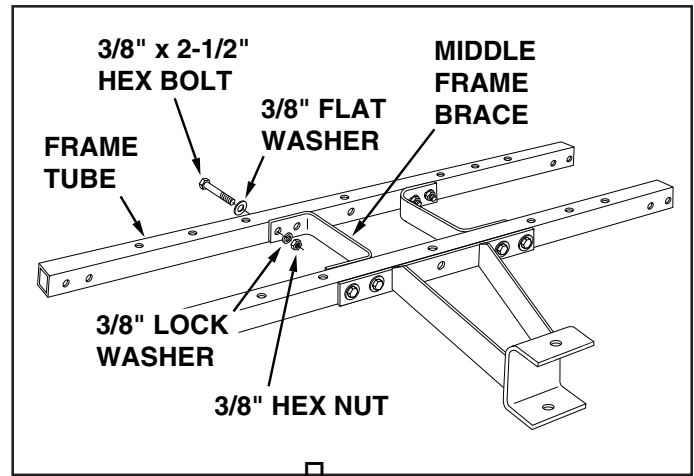

FIGURE 3
4. Assemble a frame tube to the rear of the middle frame braces using four 3/8" x 2-1/2" hex bolts, 3/8" flat washers, 3/8" lock washers and 3/8" hex nuts. **Do not tighten yet.** See figure 3.